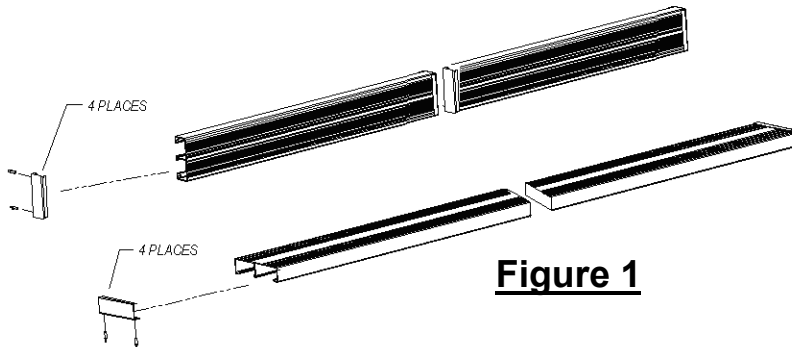

Figure 1
Screw master frame and half posts together using #10 x 1" screws. Note: half posts are pre-drilled. See **Figure 1** below.
- A. Drill 3/16" diameter holes through 9 1/2" bench and 6" backrest using predrilled holes in end cap as guide, 2 per end cap. **See Figure 1**